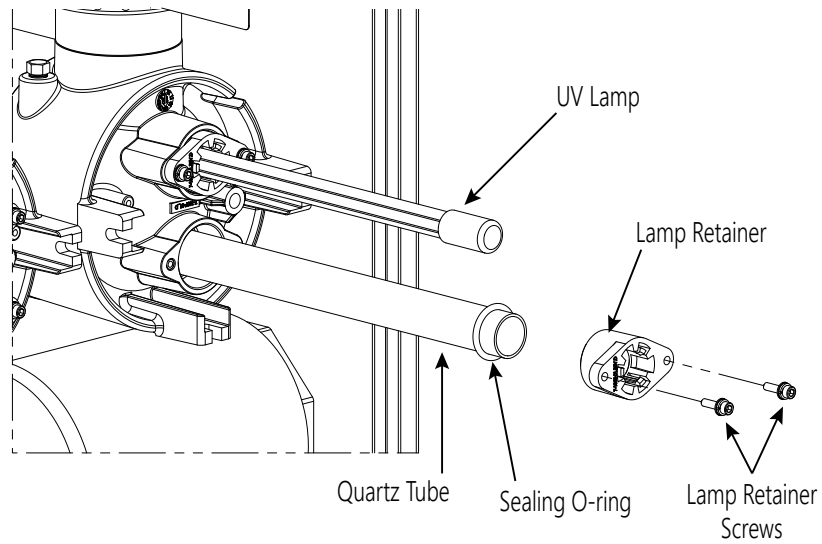

Figure 4: UV Lamp and Quartz Tube Removal
2. Place the lamp retainer over the quartz tube and attach the lamp retainer using the lamp retainer screws and washers as shown in *Figure 4*. Make sure the lamp retainer flanges are fully seated against the UV reactor.
3. Open the door and locate the bottom quartz tube in each UV reactor (Refer to *Figure 4*). Remove these quartz tubes to drain the remaining water from the UV reactor(s).